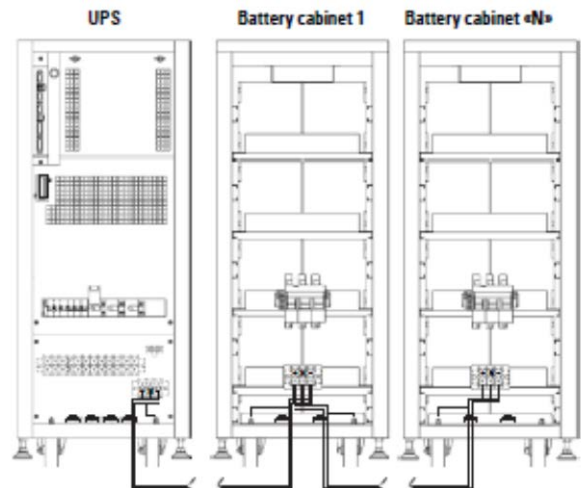

Fig.23. Example of connection between UPS and two battery cabinets.
- The connection of the battery cabinet with an M4T Evolution from 10k to 80k VA, must be done with a cable, by connecting one side to terminals (X11), (X23) and (X12) of the UPS and the other one to terminals (X47), (X49) and (X48) of the battery module. Always respect the stated polarity on the label of each element and this manual, as well as the colour of the cables (red for positive, black for negative, blue for middle tap (N) and green-yellow for earth bonding), see Fig. 23.
As an example Fig. 23 shows the connection between one UPS and two battery cabinets. Proceed in the same way when connecting more modules.